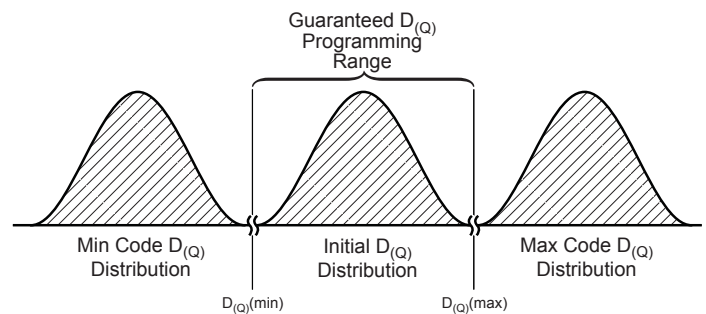

Figure 1. Quiescent output duty cycle versus time
**Guaranteed Quiescent Duty Cycle Output Range** The quiescent duty cycle output,  $D_{(Q)}$ , can be programmed within the guaranteed quiescent duty cycle range limits:  $D_{(Q)(min)}$  and  $D_{(Q)(max)}$ . The available guaranteed programming range for  $D_{(Q)}$  falls within the distributions of the initial duty cycle,  $D_{(Q)init}$ , and of the maximum programming code for setting  $D_{(Q)}$ , as shown in figure 1.